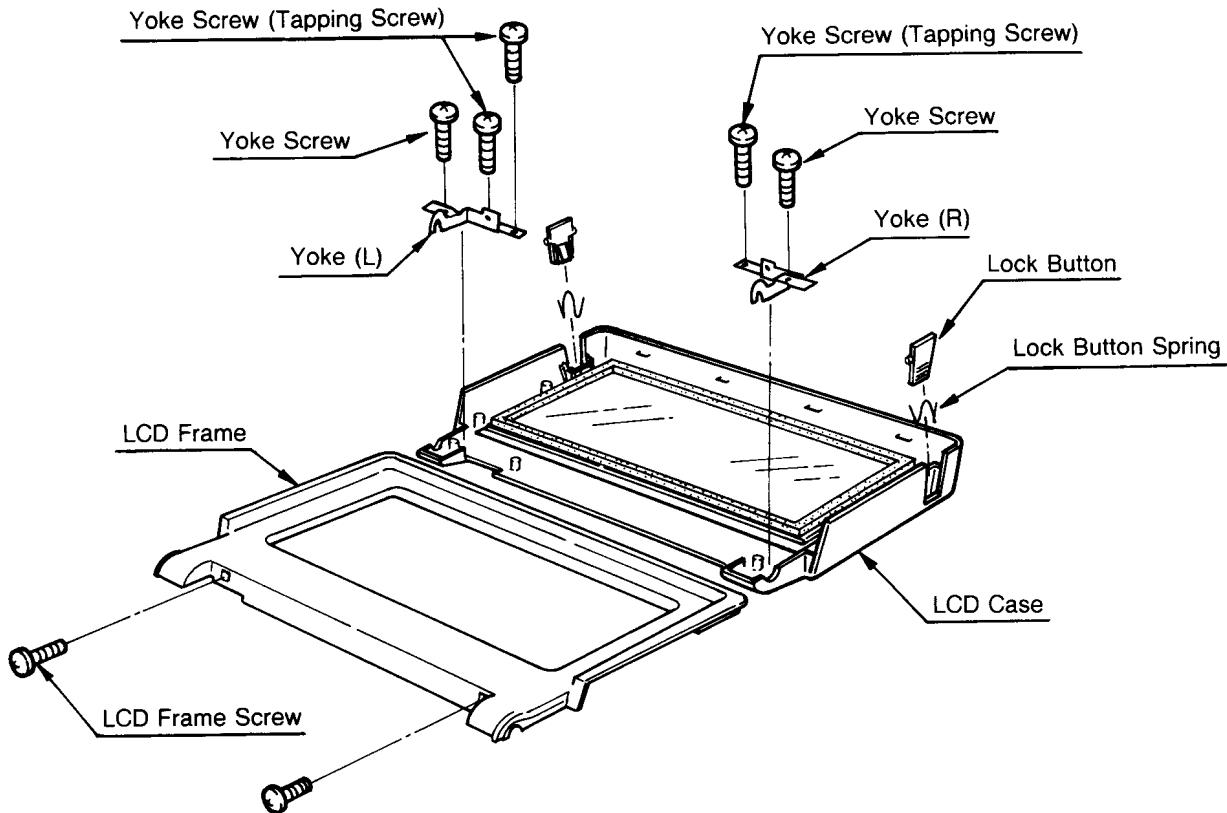

Figure 2-8. Exploded View of LCD Assembly
(3) Turn over the Top Cover and remove two LCD Frame screws on both sides. (Figure 2-8)
(4) Remove the LCD Frame, then remove two Lock Buttons and two Lock Button Springs on both sides.
(5) Remove the Yoke screws (three at the left, two at the right) and remove the Yokes.